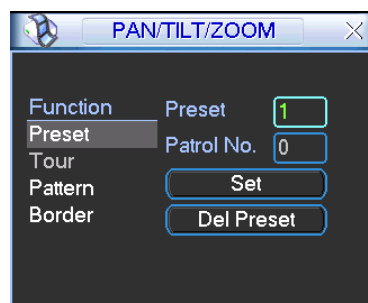
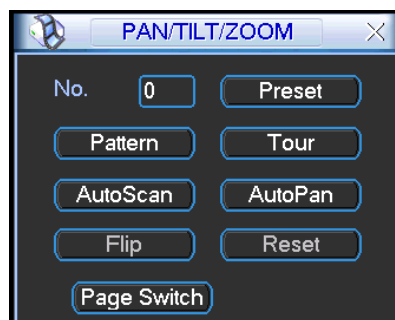

Figure 4-45
Figure 4-46
In Figure 4-42, please click the “set” button. The interface is shown as below. See Figure 4-45. Here you can set the following items:
In Figure 4-42, click page switch button, the interface is shown as in Figure 4-46.
- The following setups are usually operated in the Figure 4-42, Figure 4-45 and Figure 4-46.
In Figure 4-45, click preset button and input preset number. The interface is shown as in Figure 4-47.
In Figure 4-46, please input preset number in the No. blank, and click preset button.
In Figure 4-45, input patrol (tour) number in the No. blank and click patrol button
In Figure 4-45, click pattern button and then click “begin” button. The interface is shown as in Figure 4-49. Then you can go to Figure 4-42 X to modify zoom, focus, and iris.
In Figure 4-46, click “Auto Scan” button, the system begins auto scan. Correspondingly, the auto scan button becomes Stop button. Click stop button to terminate scan operation.
In Figure 4-46, click page switch button, you can see an interface is shown as below. See Figure 4-51. Here you can set auxiliary function. The aux value has relationship with the Aux button of the decoder.